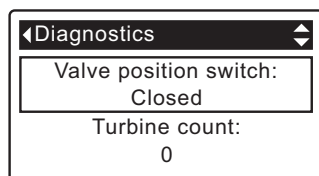

FIG. 88
2. Press the DOWN ▼ button to scroll through the list until **Valve position switch** is displayed (See Figure 88).